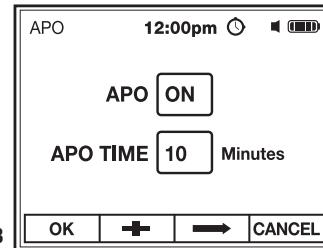

Fig. 23
2. Use the F3 \Rightarrow soft key to select APO or APO TIME (highlighted in red), (Fig. 23).
3. Use the F2 + soft key to turn APO ON or OFF or adjust APO timer (Max. 30 min), (Fig. 23).
4. Press the F1 OK soft key to save setting and return to Meter Settings (Fig. 23).